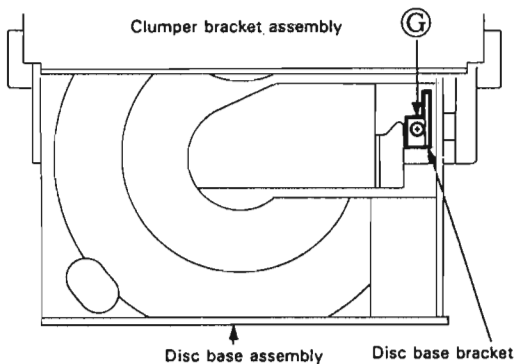

Fig. 7
4. Remove a screw ⑥ securing the disc base bracket visible from notched window of the disc base assembly. (Refer to Fig.7)